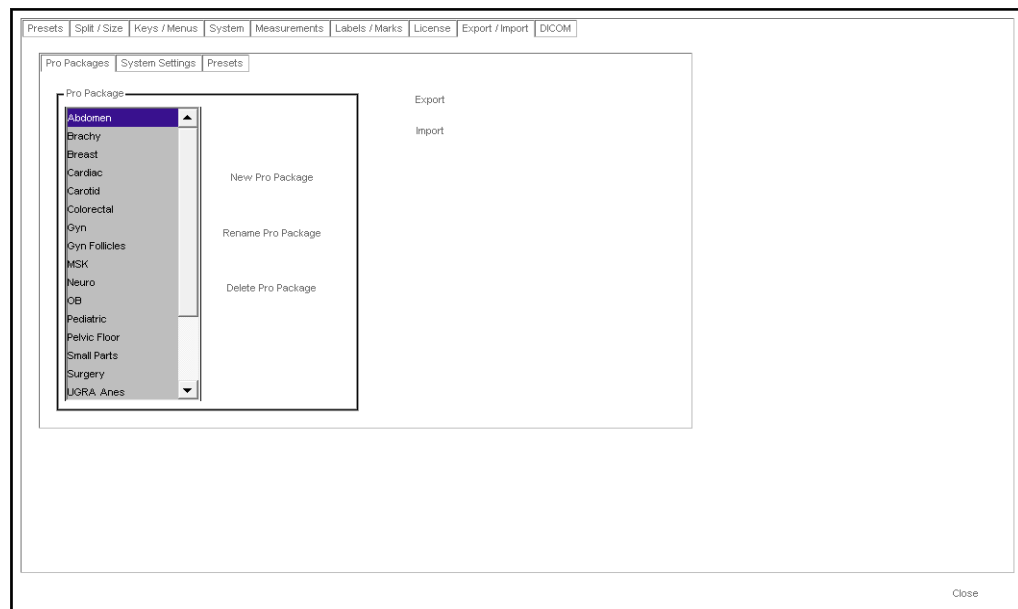

Figure C-25. The Export/Import window opened to the Pro Packages.
- 1 In the **Export/Import** window (Fig C-25), click the **Presets** tab. The **Preset Export/Import** window opens.